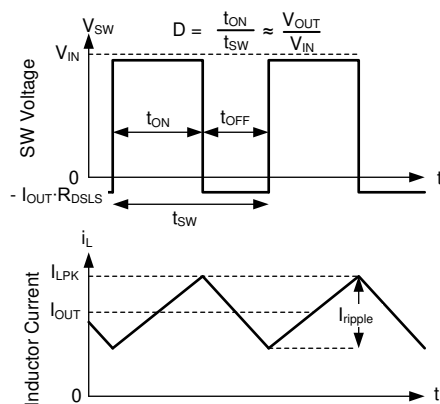

Figure 9-15. SW Voltage and Inductor Current Waveforms in Continuous Conduction Mode (CCM)
The following operating description of the LM61440-Q1 refers to Section 9.2 and to the waveforms in Figure 9-15. In CCM, the LM61440-Q1 supplies a regulated output voltage by turning on the internal high-side (HS) and low-side (LS) NMOS switches with varying duty cycle (D). During the HS switch on-time, the SW pin voltage, V_{SW} , swings up to approximately V_{IN} , and the inductor current, i_L , increases with a linear slope. The HS switch is turned off by the control logic. During the HS switch off-time, t_{OFF} , the LS switch is turned on. Inductor current discharges through the LS switch, which forces the V_{SW} to swing below ground by the voltage drop across the LS switch. The converter loop adjusts the duty cycle to maintain a constant output voltage. D is defined by the on-time of the HS switch over the switching period: